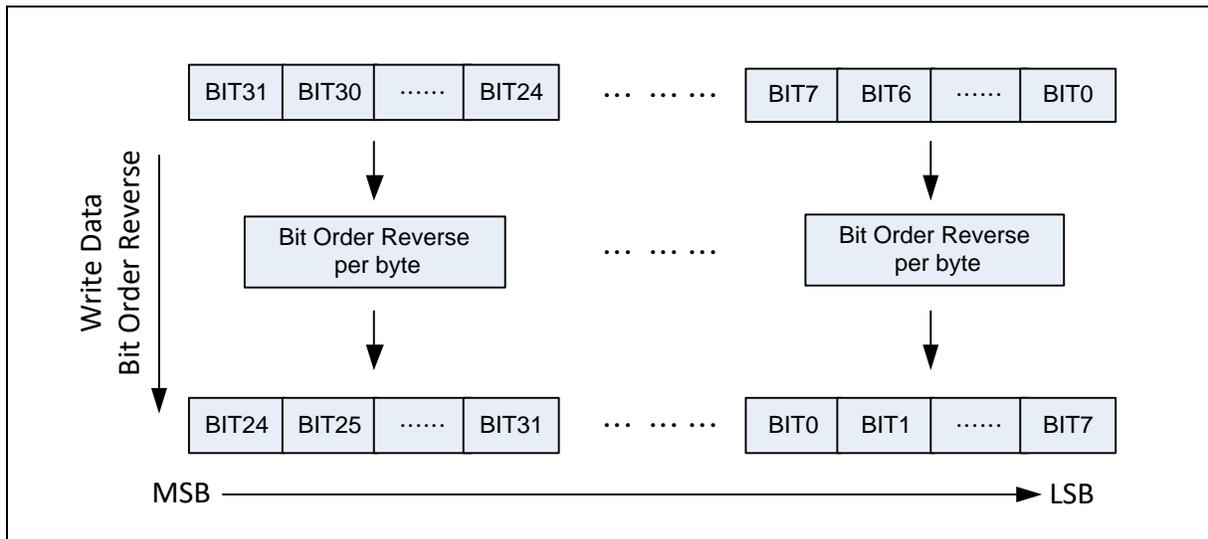

Figure 6.26-3 Write Data Bit Order Reverse Functional Block
- 4) Configure bit order reverse for CRC write data per byte by setting DATREV (CRC_CTL[24] Write Data Bit Order Reverse). The functional block is also shown in Figure 6.26-3.